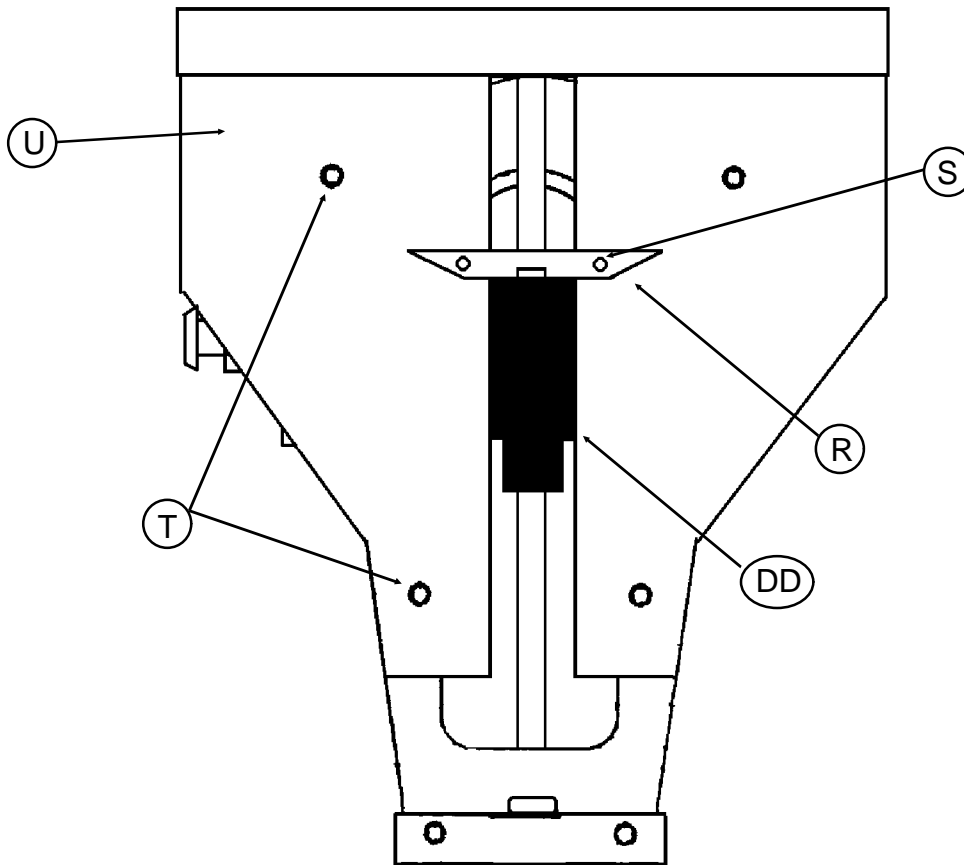

Figure 4
17. If a Center Plate Brace (Figure 4-R) is present, remove the right Retaining Screw (Figure 4-S) holding it to the Left Cover Plate.
18. Remove the two Cover Plate Retaining Screws (Figure 4-T), and remove the Right Cover Plate (Figure 4-U).
31. Rotate the Z Axis and verify that the Cover plates do not bind the Driver (Figure 4-DD) in its up and down travel. If there is any mechanical bind, slightly reposition the Cover Plate and Check for bind again.